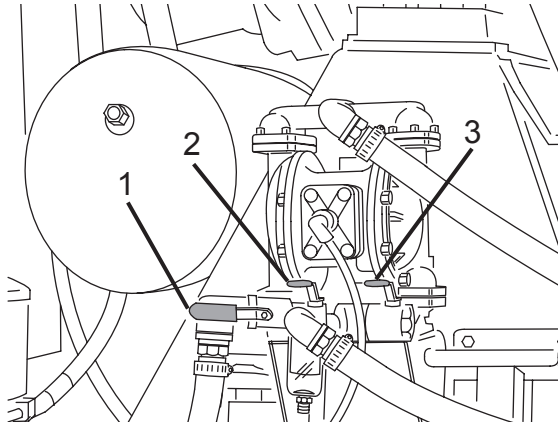

Figure 111
- Close the main tank ball valve (Figure 111, Item 2) and chemical tank ball valve (Figure 111, Item 1) (if equipped).
- Open the purge valve (Figure 111, Item 3).